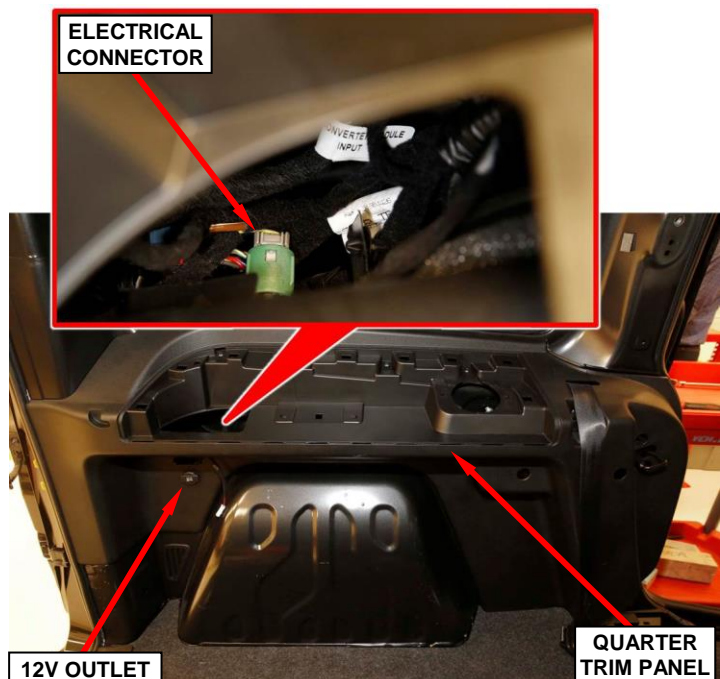

Figure 16 – 12V Outlet
18. Reach in behind the left rear quarter trim panel to disconnect the electrical connector from the green 12V outlet (Figure 16).
32. Reach in behind the left rear quarter trim to connect the electrical connector to the green 12V outlet (Figure 16).